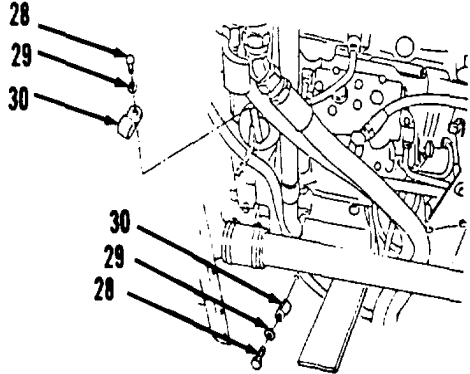

Figure 11-10.
- 18. Remove two bolts (28), washers (29) and clips (30, Figure 11-10) from front, left side of engine.
4. Install two clips (30), washers (29) and bolts (28, Figure 11-10).